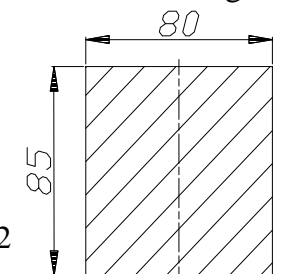

Fig. 2
2. Put side brackets (pos. 5 and 6) and fix loosely using bolts M12x35mm (pos. 8) - in points A, through washers (pos. 4) and original holes in chassis members.
3. Fix main bar of the towbar (pos. 1) to installed brackets using bolts M12x35mm (pos. 8) through holes B.
4. Through original holes in rear slice and holes in the towbar construction fix bolts M10x30mm (pos. 9)
5. Reassemble the bumper after cut out its fragment according to figure 2.
6. Fix body of the automat (pos. 17) and the socket plate (pos. 3) using bolts M12x25mm (pos. 7) from accessories. Place tow-ball (pos. 2) according to supplied instruction.